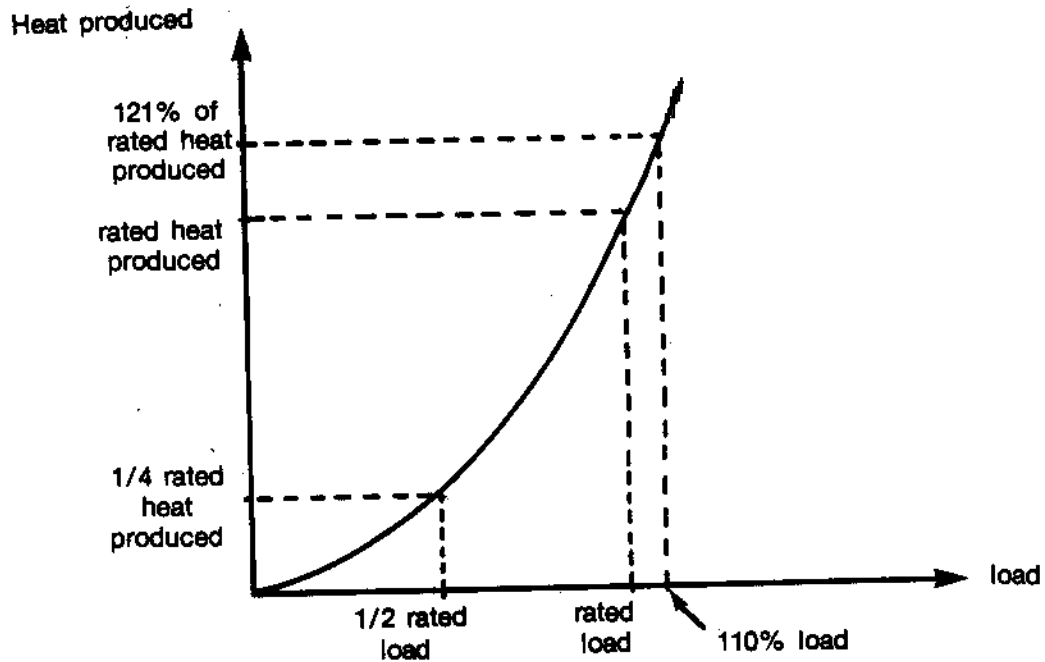

Figure 2: Relationship Between Load and Heat Produced in Transformer Windings.
3.2.1 Heat Produced in the Windings and Connections. As the transformer is loaded, heat is produced in the primary and secondary windings and connections due to  $I^2R$ . At low loads, the quantity of heat produced will be small but as load increases, the amount of heat produced becomes significant. At full load, the windings will be operating at or near their design temperature. Figure 2 shows the relationship between load current and the heat produced in transformer windings and connections.